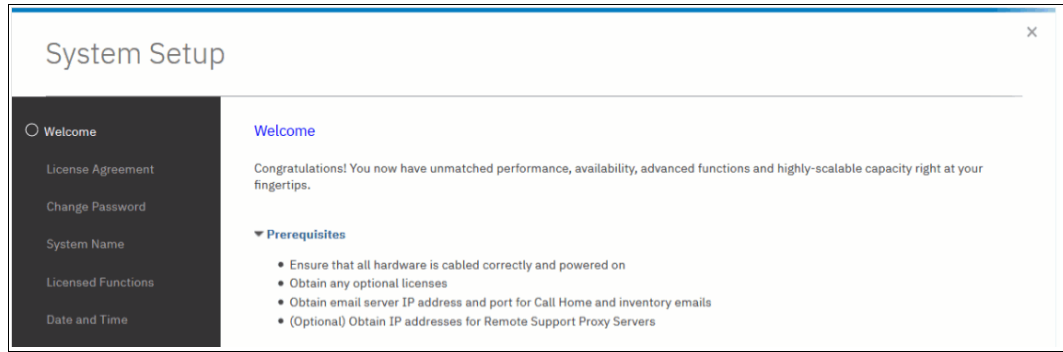

Figure 3-10 System Setup: Welcome
2. The welcome window opens, as shown in Figure 3-10. Verify the prerequisites and click **Next**.